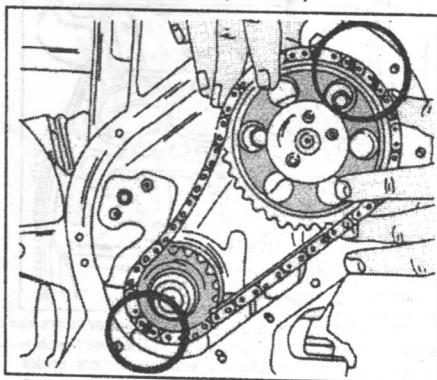

Fig. 1.36. — When fitting the timing chain make sure that the timing chain marks and the timing sprocket marks are aligned as shown.
- Place the timing chain over the crankshaft timing sprocket and insert the sprocket on the other side into the timing chain. Check that the timing marks are aligned as shown in Fig. 1.36 and bolt the camshaft sprocket to the camshaft. Timing chains without marks must be fitted in accordance with the marks made during dismantling.